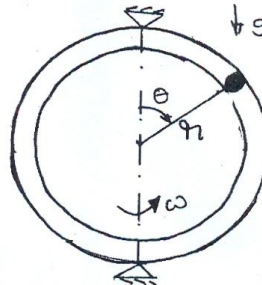

Fig.Q3(b)
b. A particle of mass m can slide without friction on the inside of a small tube which is bent in the form of a circle with radius ' r ' as shown in Fig.Q3(b). The tube rotates about a vertical axis with a constant angular velocity ω . Write down the differential equation governing the motion. (05 Marks)